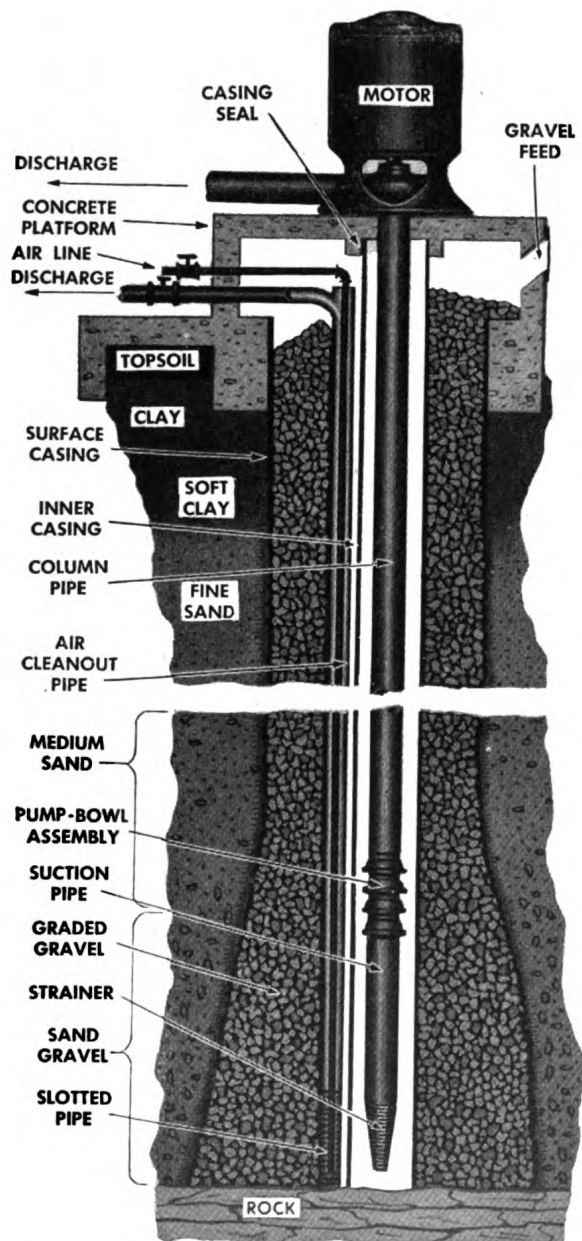

Figure 20. Large diameter gravel-wall well constructed by caisson method.
a. GENERAL. Large gravel-wall wells are usually constructed in loose sand and gravel deposits. A steel caisson, usually 30 to 40 inches in diameter, extends from ground surface through the water-bearing stratum. The portion of caisson in the water-bearing stratum is a screen section surrounded by a wall of properly placed and graded clean, washed gravel (fig. 20). This well requires considerable maintenance because of sand or silt packing around screen